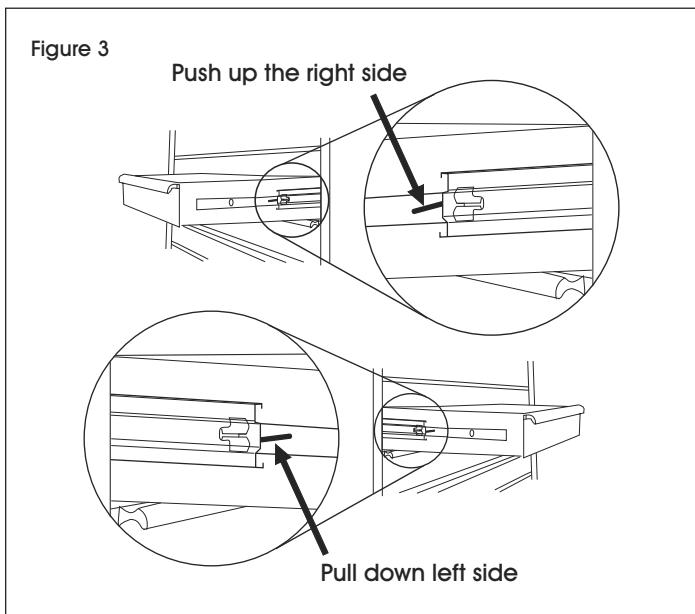

Figure 3
1. Pull drawer out until fully extended. (See Figure 3)